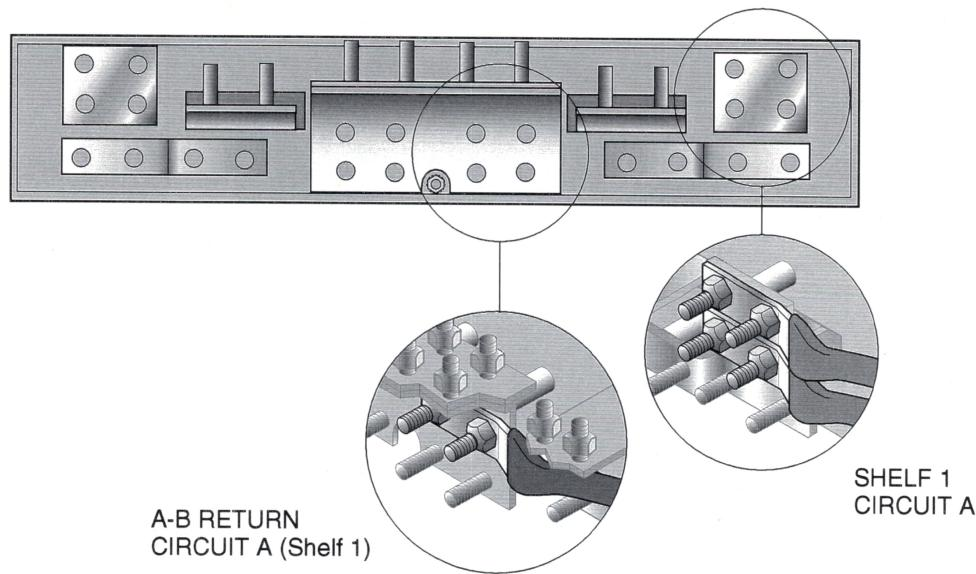
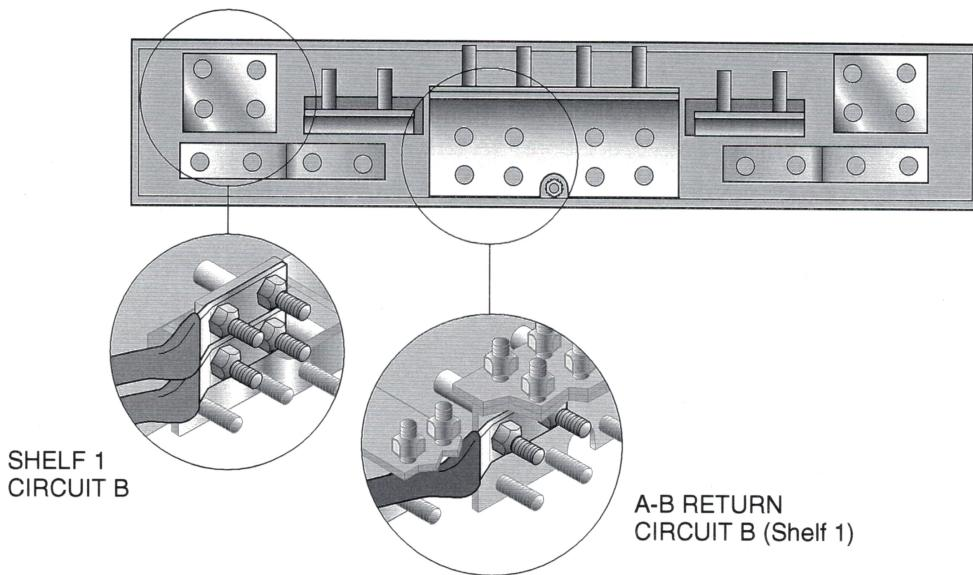

Figure 30 Circuit A PLCS Power and Return Connections (Upper-Shelf Position) on the PDU (Rear view)
Figure 31 Circuit B PLCS Power and Return Connections (Upper-Shelf Position) on the PDU (rear view)
5. Using a 1/2-inch nut driver, remove the nuts from the threaded posts on the back of the PDU on the bus labeled SHELF 1 CIRCUIT A. Also remove the nuts from the threaded posts on the bus labeled A-B RETURN CIRCUIT A. See Figure 30 and Figure 31 for the bus locations.
6. Place the free end of the A-side return cable over the posts of the A-B RETURN CIRCUIT A bus. Replace the nuts and tighten with a $1\frac{1}{2}$ -inch nut driver. See Figure 30, Circuit A insert.
7. Place the free ends of the A-side power cables over the posts of the SHELF 1 CIRCUIT A bus. Make sure the power cable that was on the right side of the bus on the back of the PLCS is connected to the upper posts on the bus on the PDU. Replace the nuts and tighten. See Figure 30, Circuit A insert.
8. Using a 1/2-inch nut driver, remove the nuts from the threaded posts on the back of the PDU on the bus labeled SHELF 1 CIRCUIT B. Also remove the nuts from the threaded posts on the bus labeled A-B RETURN CIRCUIT B. See Figure 30 for the bus locations.
9. Place the free end of the B-side return cable over the posts of the A-B RETURN CIRCUIT B bus. Replace the nuts and tighten with a 1/2-inch nut driver. See Figure 30, Circuit B insert.
10. Place the free ends of the B-side power cables over the posts of the SHELF 1 CIRCUIT B bus. Make sure the power cable that was on the left side of the bus on the back of the PLCS is connected to the upper posts on the bus on the PDU. Replace the nuts and tighten with a 1/2-inch nut driver. See Figure 30, Circuit B insert.